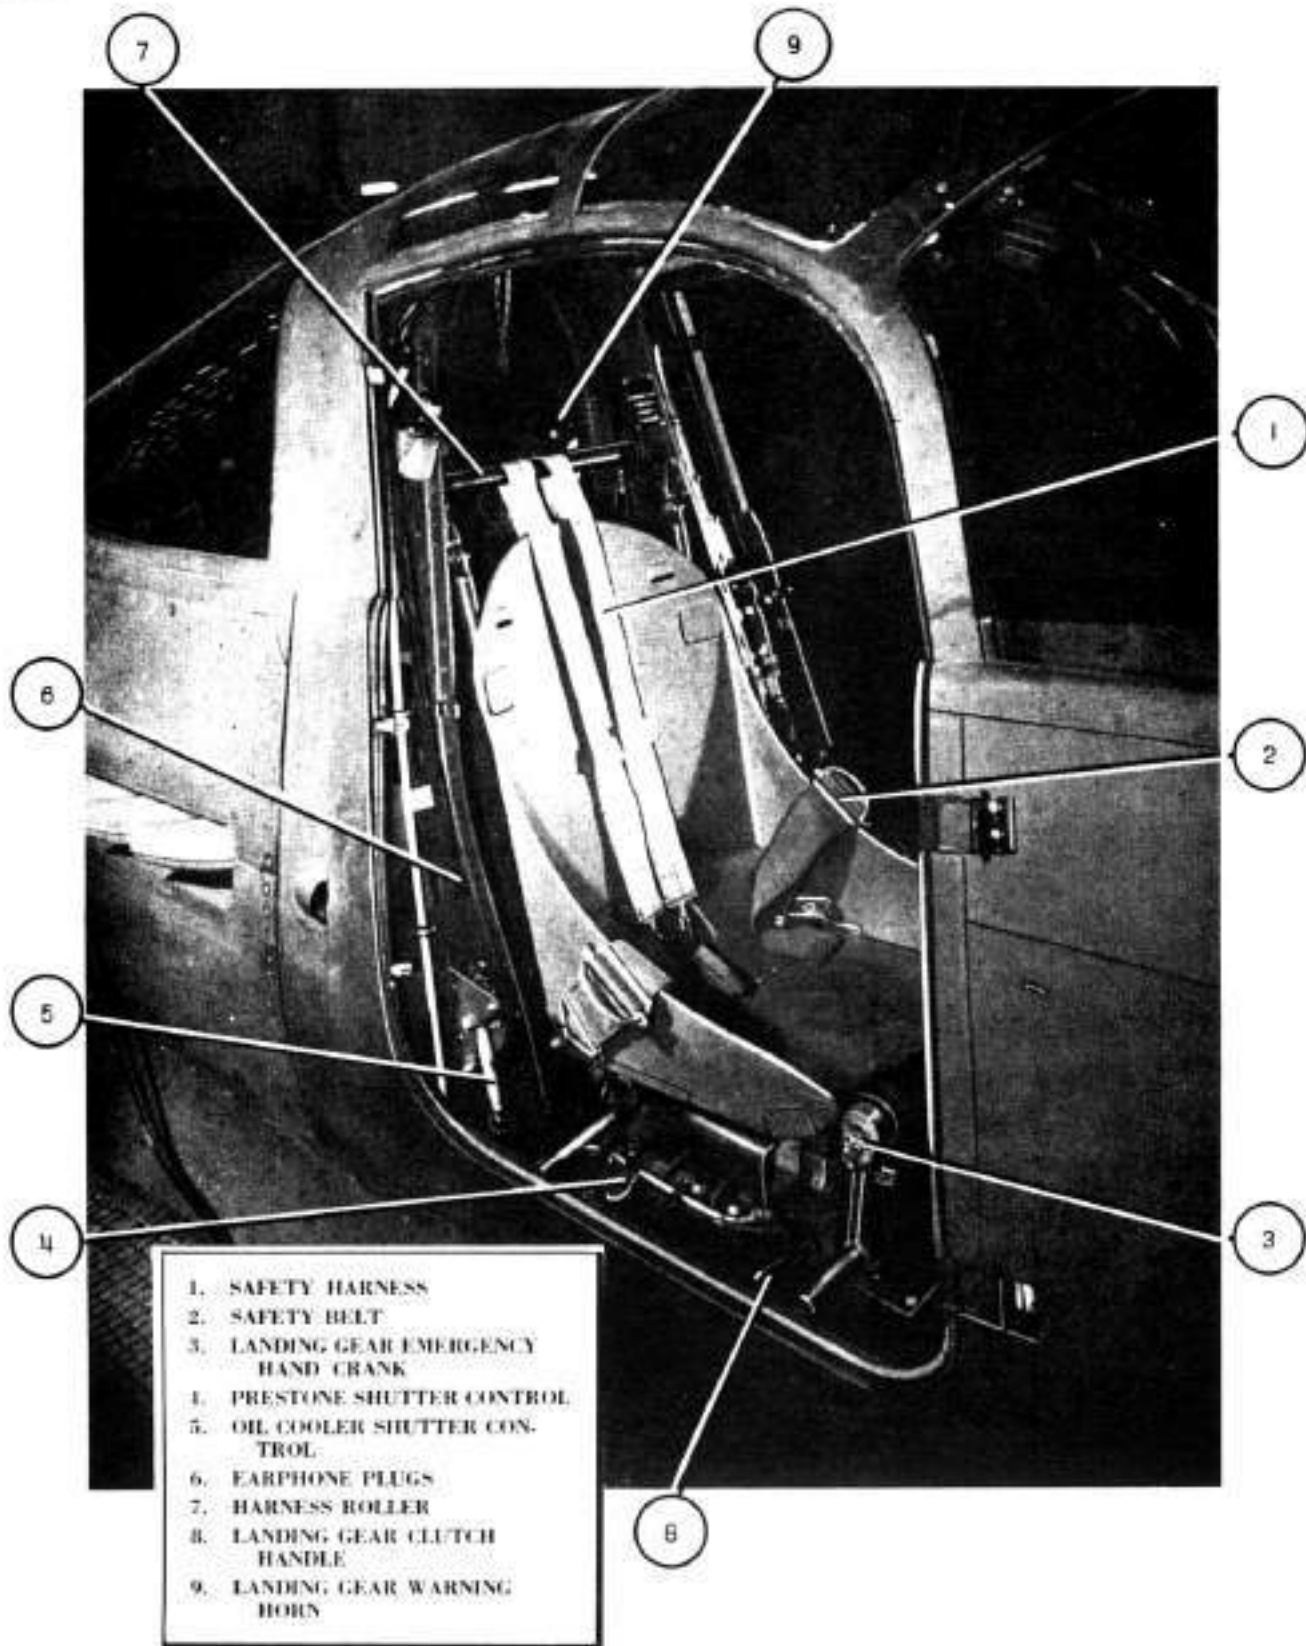

Figure 10—Turnover Beam, Right Hand Side
(6) Check that position of landing gear clutch handle (Fig. 10—8) is in position for electric operation of the landing gear.